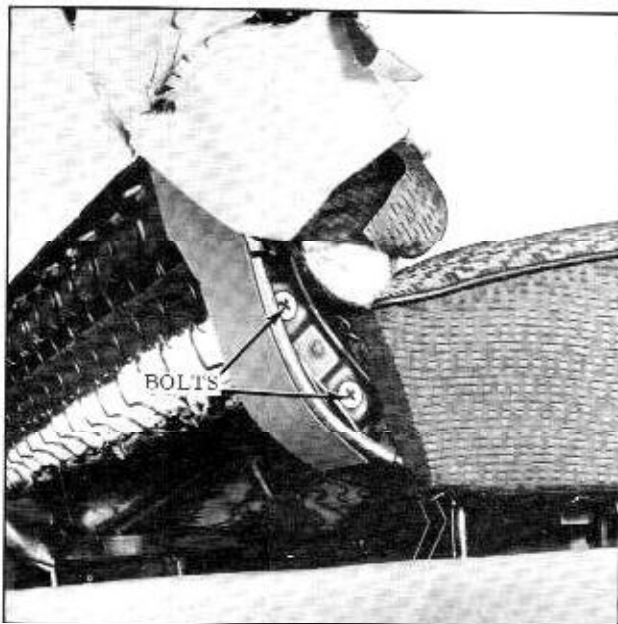

Fig. 15-62 Front Seat Back Attachment
5. At each end of seat remove hog rings securing lower edge of seat back trim from seat bottom frame. Then raise seat back trim to expose bolts securing seat back reinforcement to seat bottom frame. (Fig. 15-62)